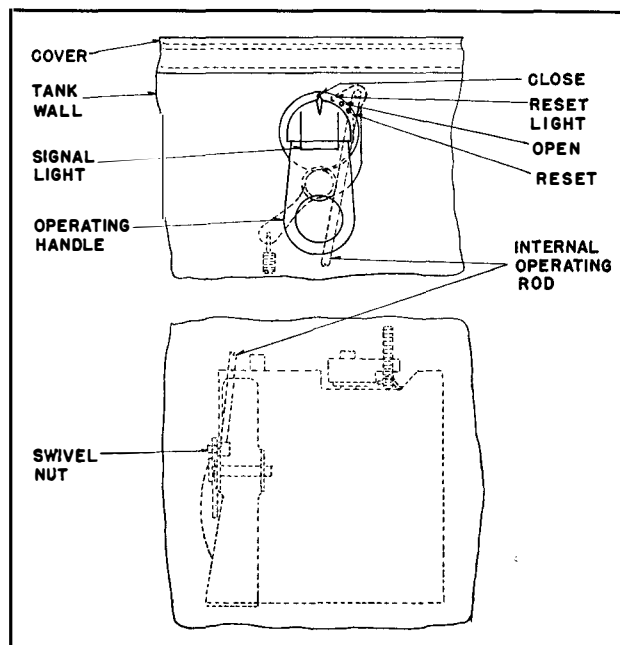

FIG. 12.
**"LR" Breakers.** (See Fig. 12.) With the vertical operating rod disconnected from the operating arm, set the breaker in the fully closed position, and hold the external handle against the quadrant stop in the closed position. Lengthen the operating rod by rotating it several turns counterclockwise. Shorten the operating rod by clockwise rotation until the upper end will just slip freely into the hole in the operating arm. Rotate the rod three additional turns clockwise, reinsert the upper end in the hole in the operating arm, and secure the rod in place with a cotter pin.